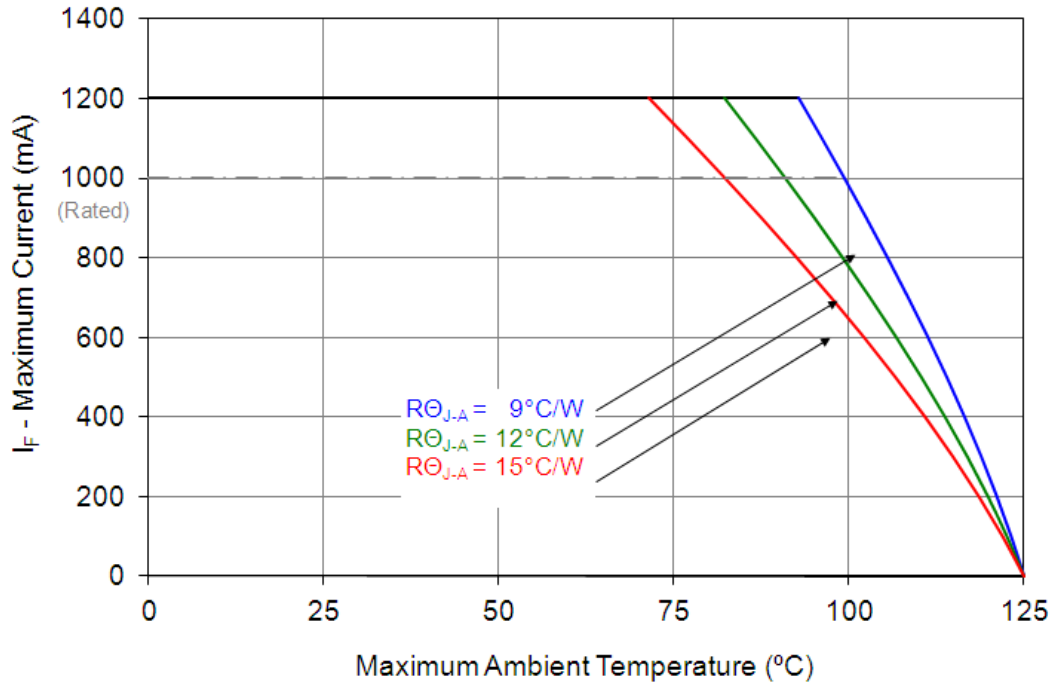

Figure 11: Maximum forward current vs. ambient temperature based on $T_{J(\text{MAX})} = 125^{\circ}\text{C}$.
1. Maximum DC forward current is determined by the overall thermal resistance and ambient temperature. Follow the curves in Figure 11 for current derating.
Notes for Figure 11: